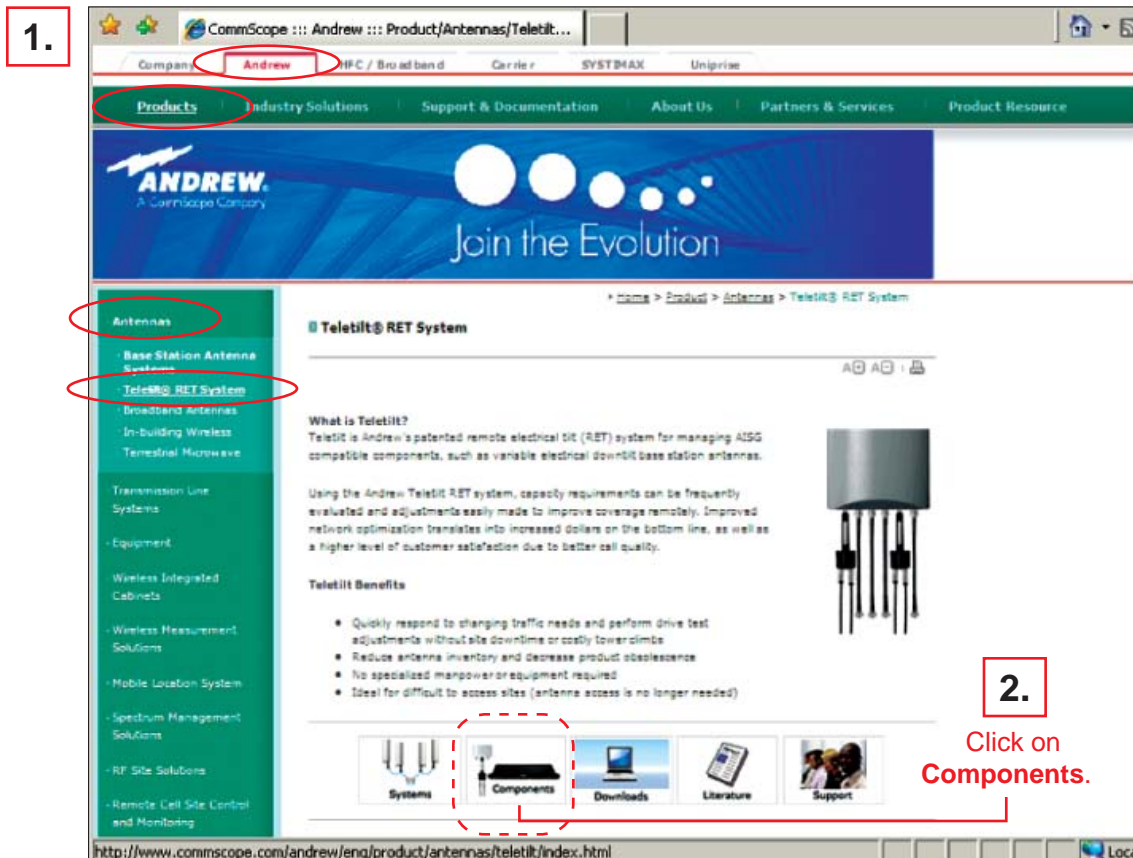

Figure 3-1. Navigating Andrew's Webpage to Find Teletilt Installation Bulletins.
1. From the main Commscope web page, click on **Andrew** → **Products** → **Antennas** → **Teletilt RET System** from the left sidebar (Figure 3-1).
2. Scroll down the Teletilt page, and click on **Components** (Figure 3-1).